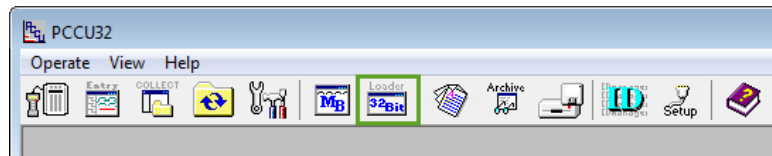

Figure 75: Loader icon
2. Click the **Loader** icon in the toolbar. A message box displays (Figure 75).